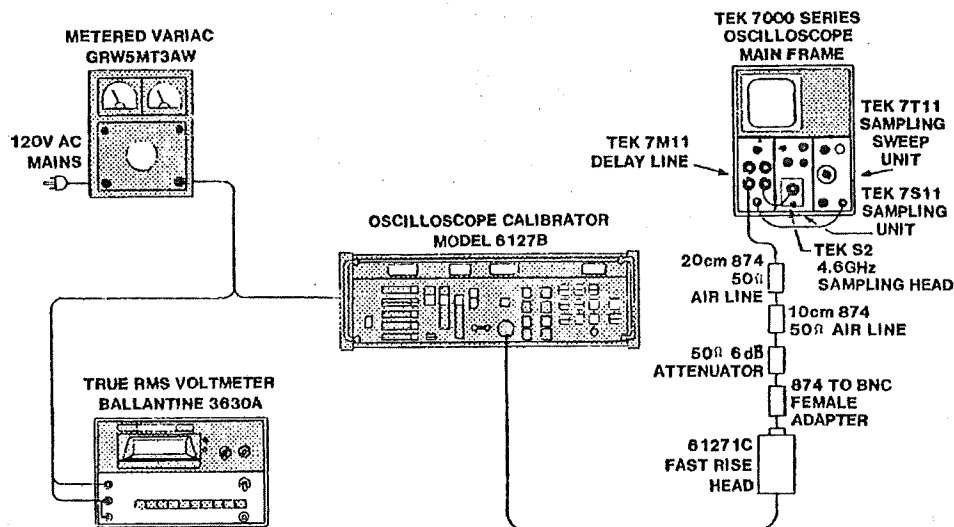

Figure 5-5a. FAST RISE PULSE Output Check, Test Set-Up (Preferred Test Set-Up)
Add attached Figure 5-5a.
k. The preferred test set-up uses a Tektronix 4.6 GHz sampling scope (7M11/7T11/7S11/S2) with a 7M11 delay line providing signal delay and an external trigger for the TTL (See Figure 5-5a). This set-up provides a faster display change scope sweep time to 100 ps/div. Observe that the displayed 10% to 90% rise time of the positive going edge is less than 276 ps. Measure the displayed rise time ($T_{display}$) and correct for the 7M11 delay line rise time ($T_{delay\ line} = 175\ ps$) and the 7S11/S2 rise time ($T_{scope} = 75\ ps$) by using the following formula
b. Connect the 61271C OUTPUT BNC to the input of the Tektronix Model 7M11 delay line plug in. Connect the output of the delay line to the 4.6 GHz Model 7S11/S2 sampling head. Connect the delay line trigger output to the EXT TRIG input of the Model 7T11 sampling time base. Connect a 6 dB (X2) 50 ohm attenuator and 30 cm of GR874 50 ohm air line between the input of the 7M11 delay line and the 61271C to delay reflections away from the fast rise pulse and upper corner. See Figure 5-5a.